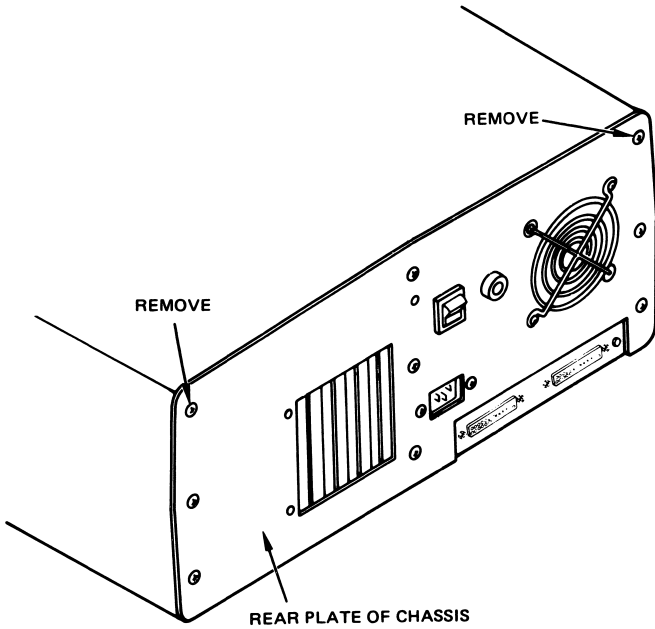

Figure 5-10. Back Top Corner Screws
4. Remove two screws from the back top left and top right corners of the cover (see Figure 5-10).